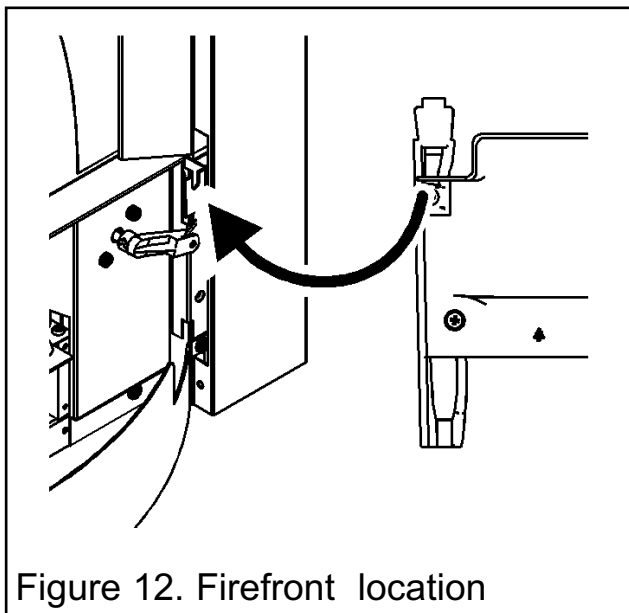
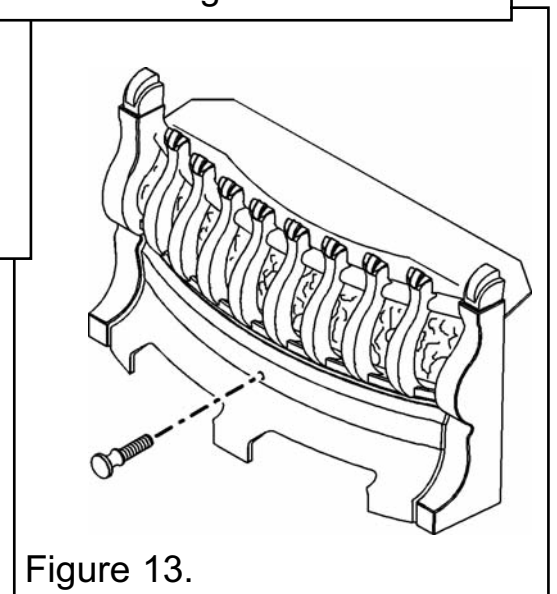

Figure 12. Firefront location
Figure 13.
3. Hook the lower firefront casting on to the firefront as in figure 12. Secure in place using the decorative knob (See figure 13).